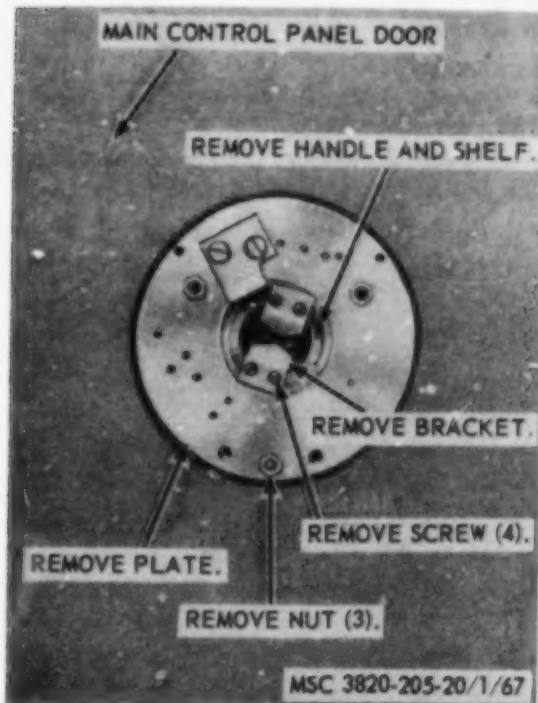

Figure 67. Control mechanism handle, removal and installation.
- (1) Remove the control mechanism handle from the control panel door as instructed on figure 67.
- (1) Install the control mechanism handle on the control panel door in reverse of the instructions on figure 67.